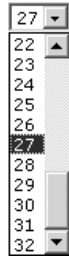

Figure 6-14 — Output selection drop box
1. To select an individual output to mute or unmute, click the Output drop box. A drop down scroll box appears (figure 6-14).